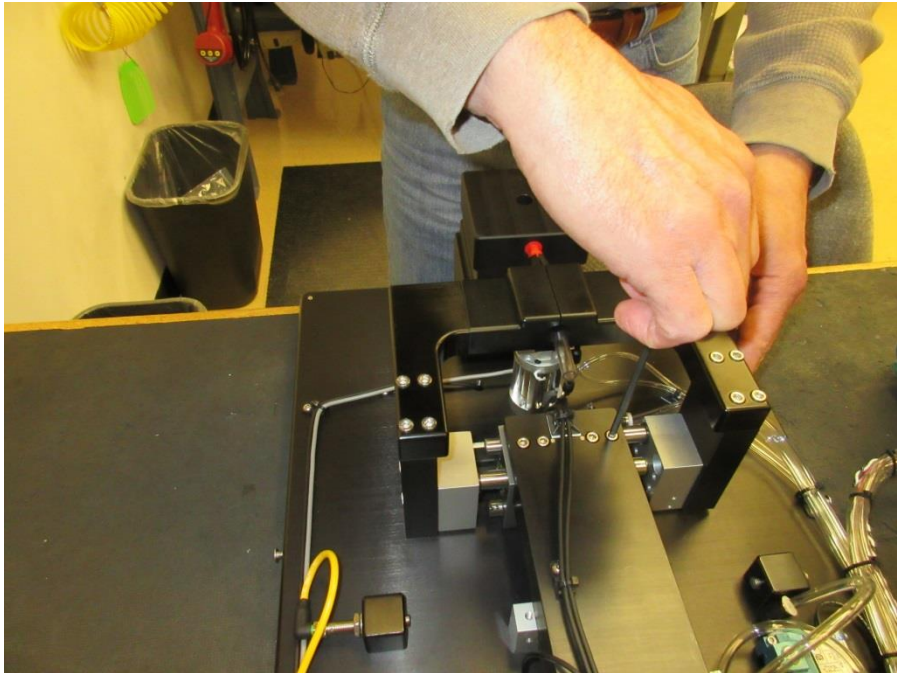

Figure 29 – Loosen the four (4) bolts on the gripper
- Loosen the four (4) bolts on top of the gripper with a 5/32" Allen wrench. (Figure 29)